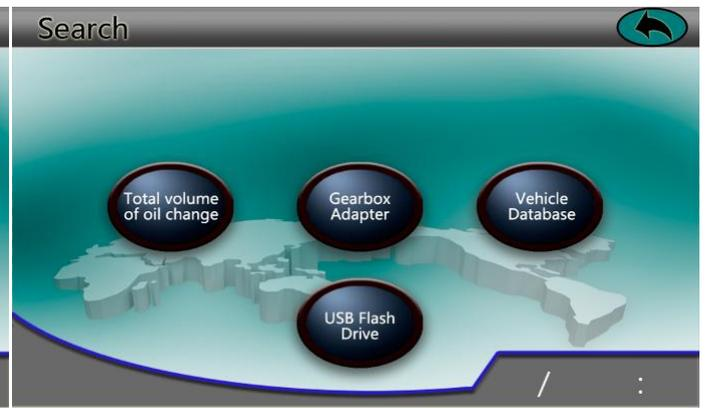

Fig.7
- 1.3 **Search:** Search for total volume of oil exchange, gearbox adapter, vehicle database and USB flash drive and so on (Fig.7);